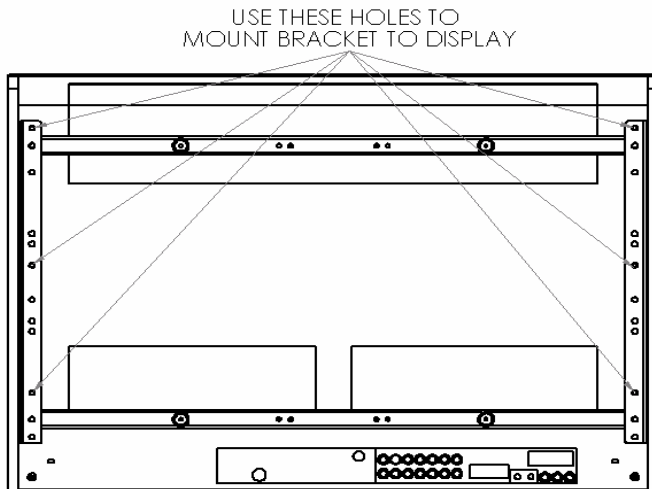
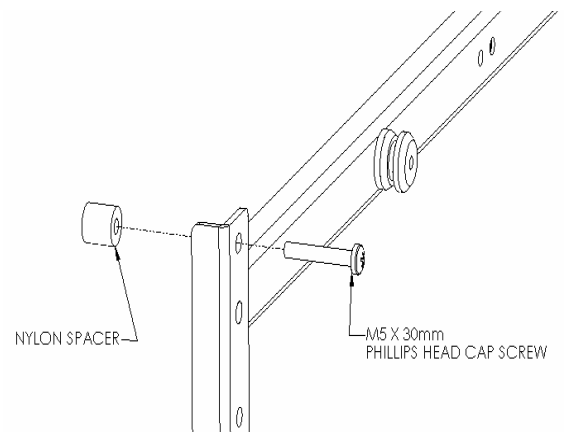

Figure 5
Figure 6
3. Place Nylon spacers on mounting holes, aligning hole pattern on *side* brackets with pattern on back of display (see Figure 5 & Figure 6).